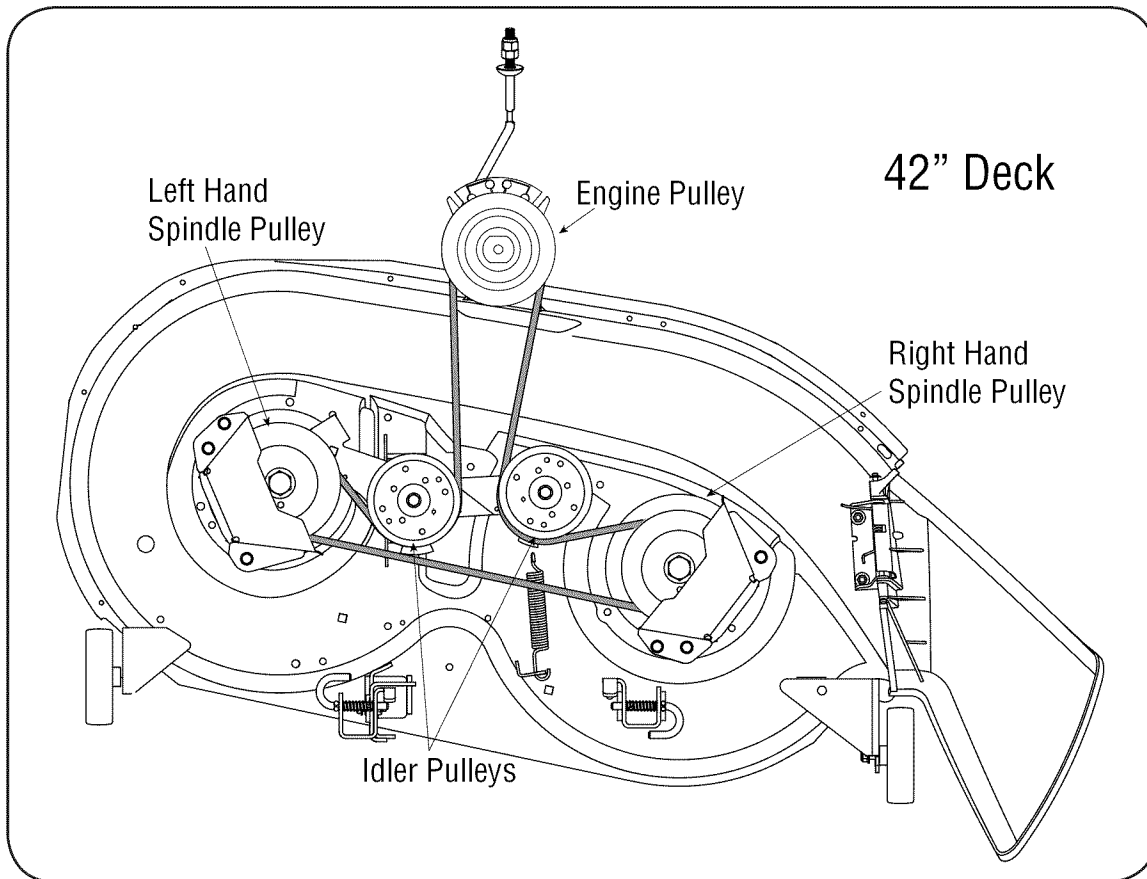

Figure 26
5. Route the new belts (deck belt first - 46" deck) as shown in and Figure 26 and 27.